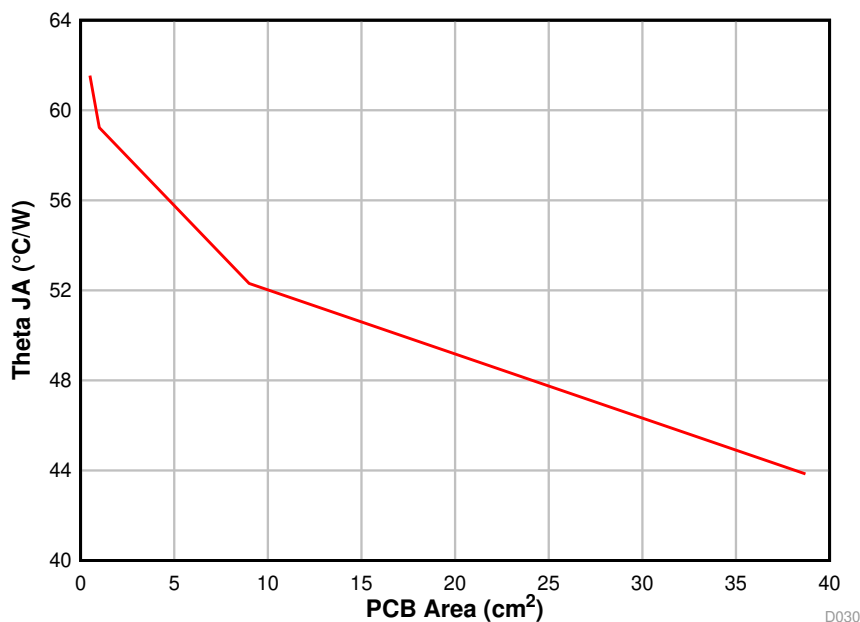

Figure 35. θ_{JA} versus PCB Area
The amount of PCB copper affects the thermal performance of the device. Figure 35 shows the effects of copper area on the junction-to-ambient thermal resistance ($R_{\theta JA}$) of the TPSM265R1. The junction-to-ambient thermal resistance is plotted for a 4-layer PCB with an area from 0.5 cm² to 39 cm².
3. Reference Figure 35 to determine the minimum required PCB area for the application conditions.